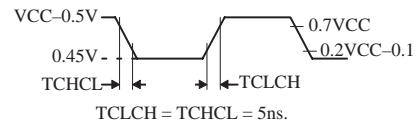

Figure 13 Clock Signal Waveform for ICC Tests in Active and Idle Modes
- Operating ICC is measured with all output pins disconnected; XTAL1 driven with TCLCH, TCHCL = 5 ns (see Figure 13), VIL = VSS + 0.5V, VIH = VCC - 0.5V; XTAL2 N.C.; $\overline{\text{EA}}$ = RST = Port 0 = VCC. ICC would be slightly higher if a crystal oscillator used (see NO TAG).